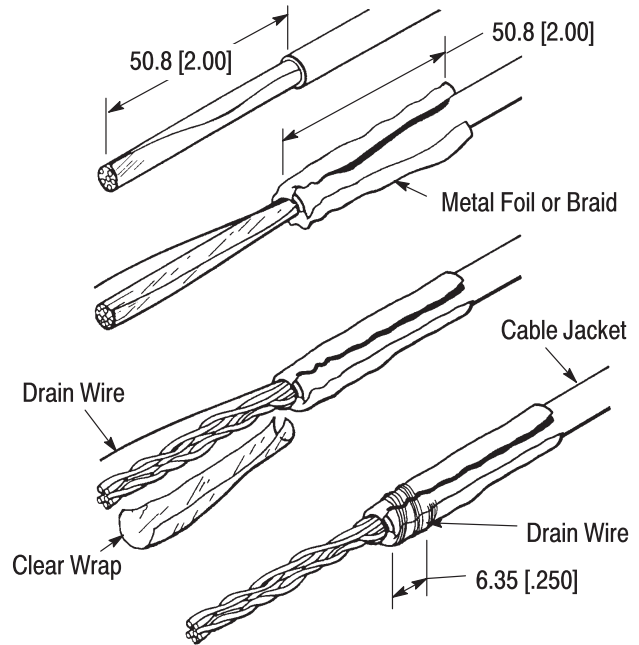

Figure 2
1. Strip back cable jacket approximately 50.8 [2.00]. See Figure 2.